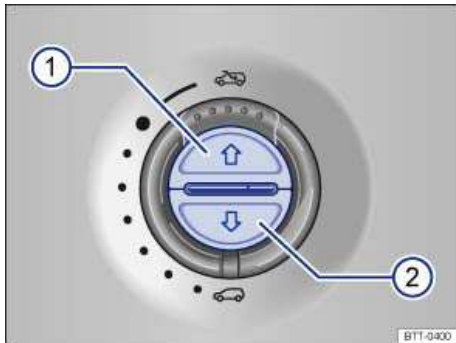

Fig. 38 In the headliner: Buttons for sunshade.
To open fully (one-touch feature):	Briefly press the ⇒ fig. 38 (1) button.
To stop the (one-touch feature):	Briefly press the ⇒ fig. 38 (1) button or the (2) button.
To set an intermediate position:	Keep the ⇒ fig. 38 (1) button or (2) button pressed until the position has been reached.
To close fully (one-touch feature):	Briefly press the ⇒ fig. 38 (2) button.
- **Sunshade:** Within 5 seconds after the pinch protection was triggered, press the ⇒ fig. 38 \(2\) switch until the sunshade is fully closed.